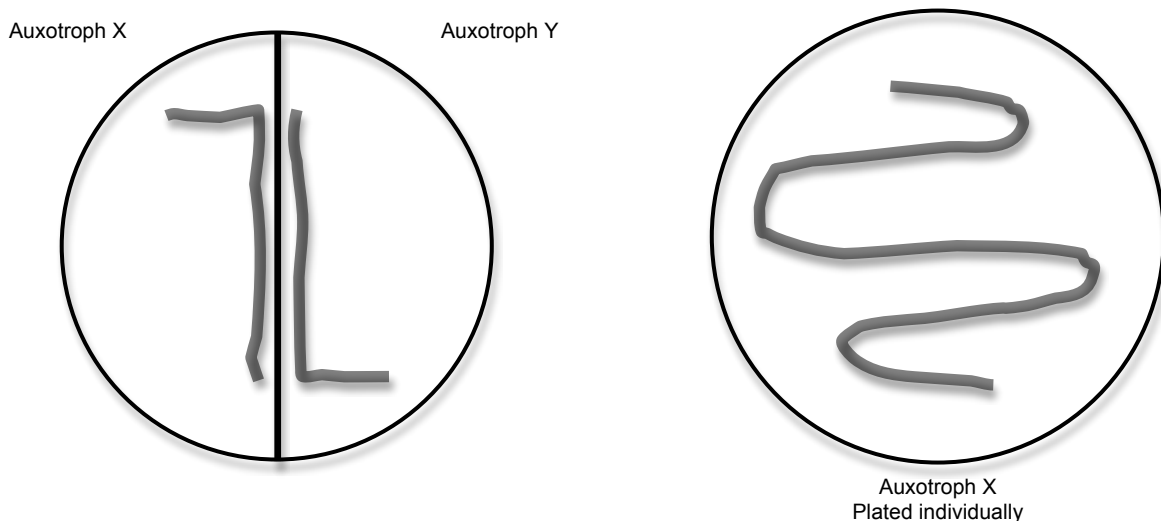

Figure 5. Examples of streak patterns for pair-wise “feeding” trials (left) and the color reference plates (right).
- a) Draw a line bisecting the center of each plate and perpendicular to the date at the bottom. The narrow end of the streak marks should be at the bottom above the date. See Figure 5 for an example.
- e) Using Figure 5 as a template, quickly transfer the inoculum to the feeding trial plate. Lift the lid only enough to insert the loop and carefully move the loop according to the template to form one-half of the “double L” pattern on the trial plate.
- 5) Prepare a color reference plate for each auxotrophic strain and for the wild-type strain. Use the plating pattern shown in Figure 5.